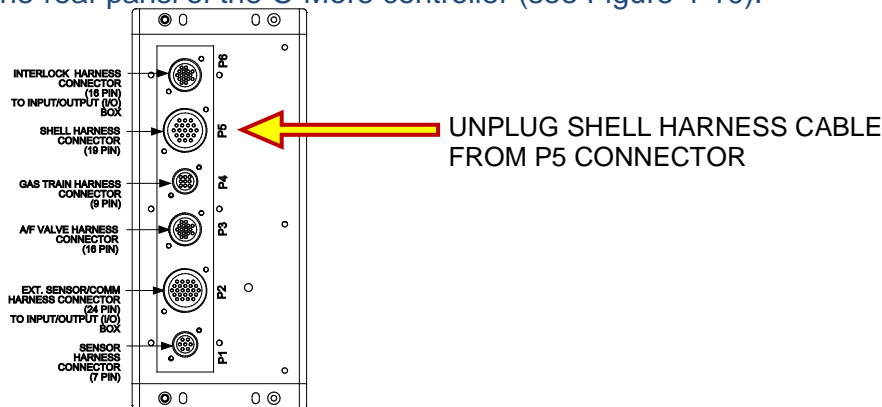

Figure 4-10: Removing Shell Harness Cable from P5 Conn. on C-More Rear Panel
2. Remove the Shell Harness Cable (male) connector from the P-5 (female) connector on the rear panel of the C-More controller (see Figure 4-10).